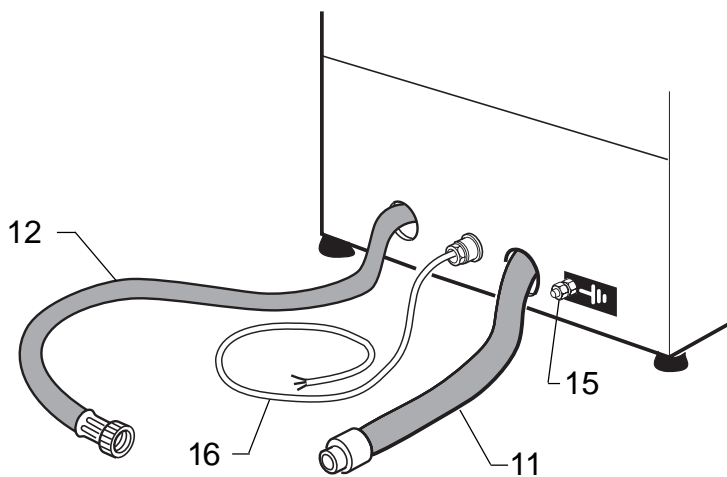

Fig. 6
3.1.a Connecting the drain pipe (Fig. 6)
- Fix the drain pipe (11) to the relative preset outlet.